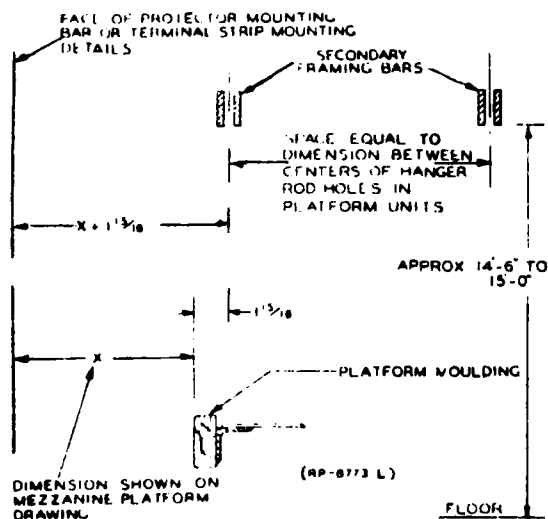

FIG. 1 LOCATING SECONDARY FRAMING BARS
4.2 Locate secondary framing bars as shown in Figure 1.